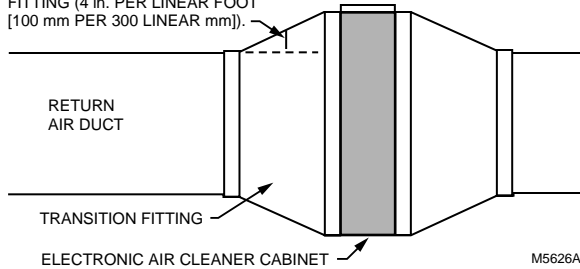

Fig. 4. Change duct size gradually to minimize turbulence.
Transitions are needed when the duct is a different size than the air cleaner cabinet. Gradual transitions reduce air turbulence and increase efficiency. Limit expansion to no more than 20 degrees or about 4 in. per running foot (100 mm per 300 linear mm) on each side of a transition fitting. See Fig. 4.
- Install a transition when the furnace and air cleaner openings are different sizes. See Fig. 4.
- Install a transition when the opening in the air cleaner cabinet and the duct are different sizes. See Fig. 4.